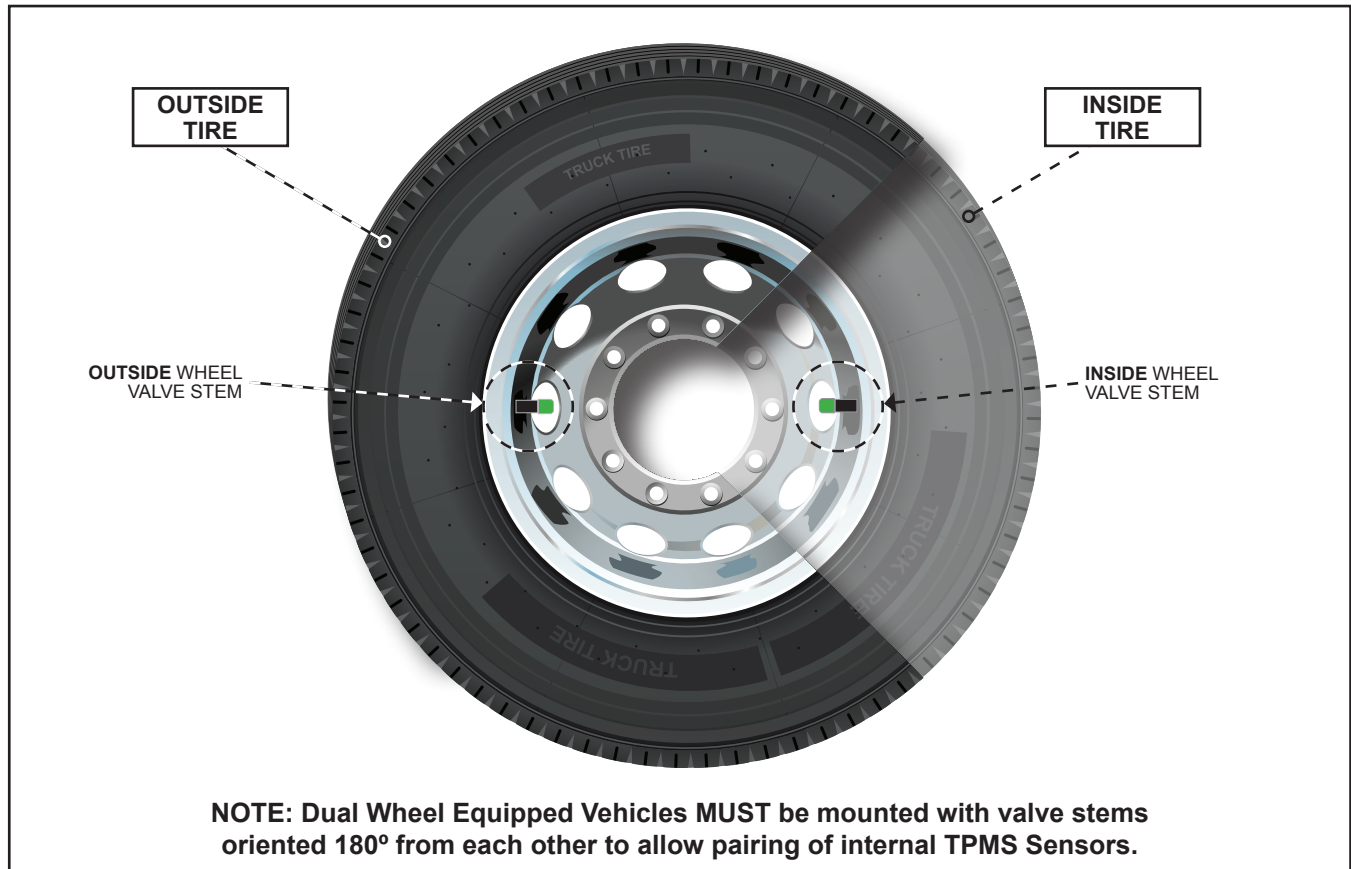

Figure 4: 180° Valve Stem Orientation.
1. Please review the following instructions to ensure proper orientation of internal TPMS Sensors using the 180° valve stem orientation method (See Figure 4):